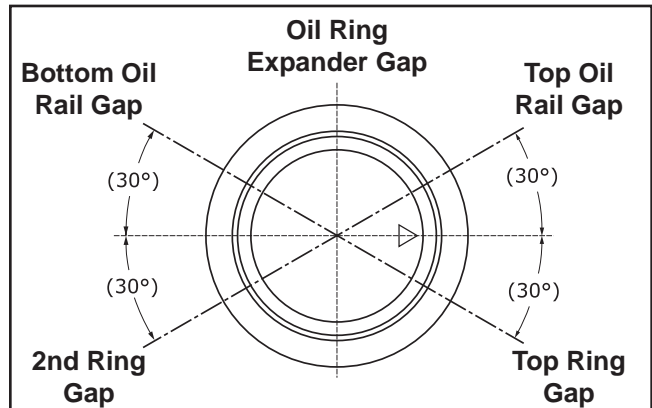

Figure 11-23. Piston Ring Orientation.
2. Stagger the piston rings in the grooves as shown in Figure 11-23.